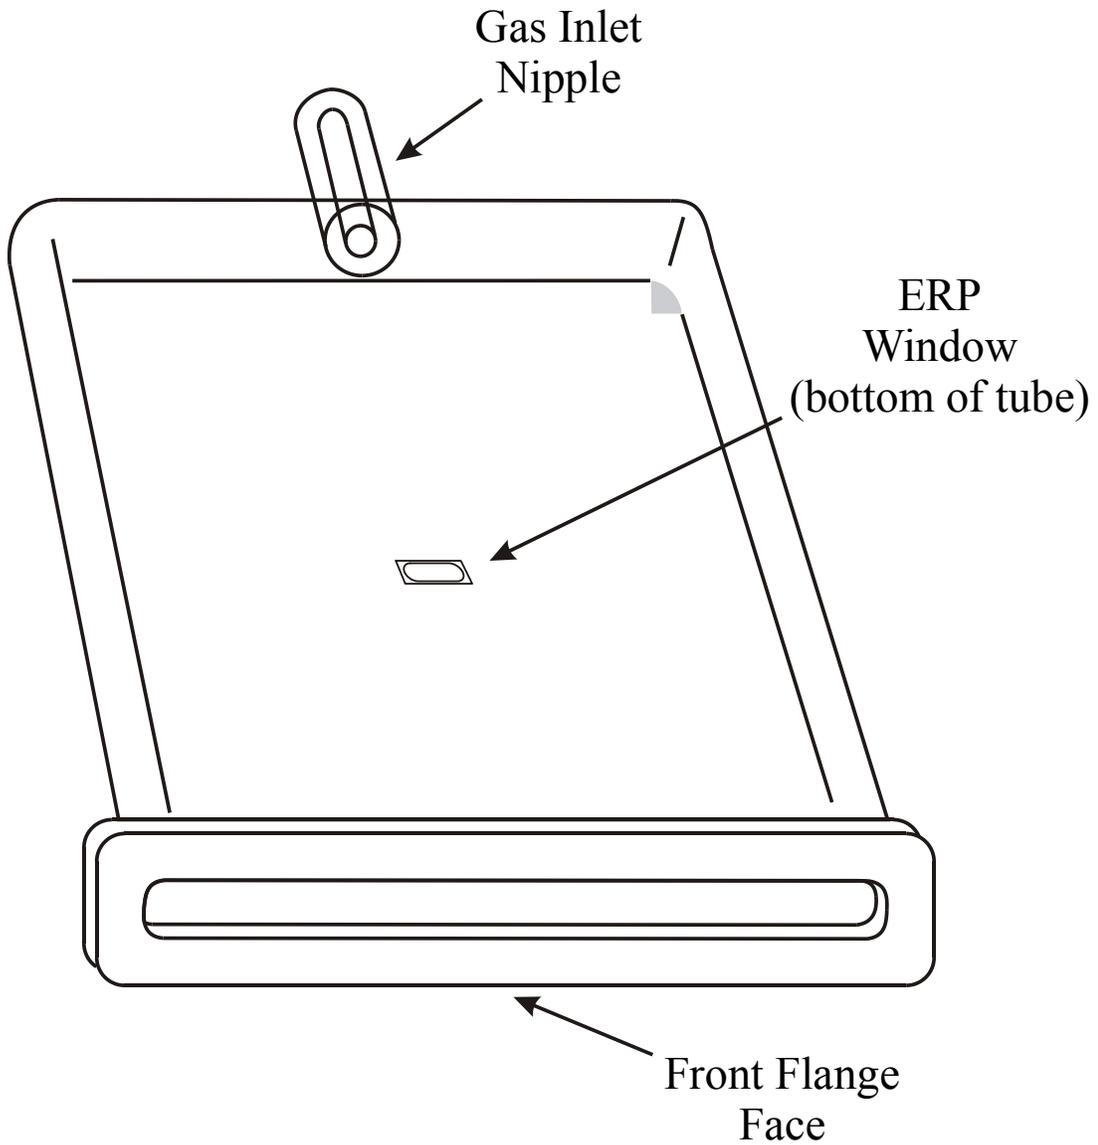

Figure 10-6: *Isolation Tube for Extended Range Pyrometer (ERP)*
- Step 2. Install the isolation tube by inserting it slowly straight back into the heating chamber. The isolation tube contains a small window. The tube should be inserted with the window on the bottom. See Figure 10-6.